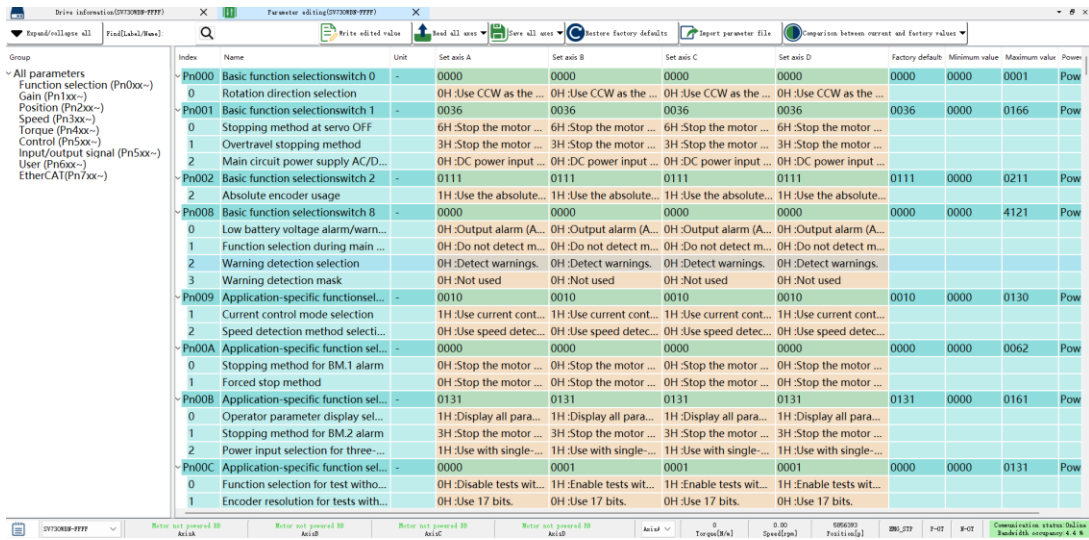

Figure2-6
1) Click the Parameter Editing button in either the left navigation panel or the top menu bar to open the main parameter editing interface, as shown in Figure 2-6.